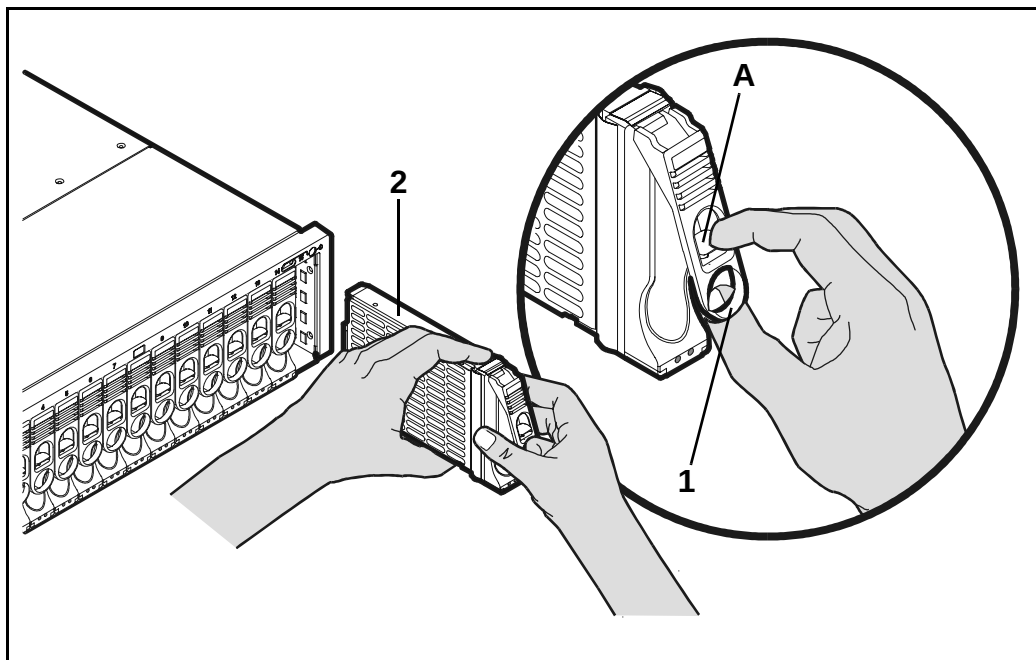
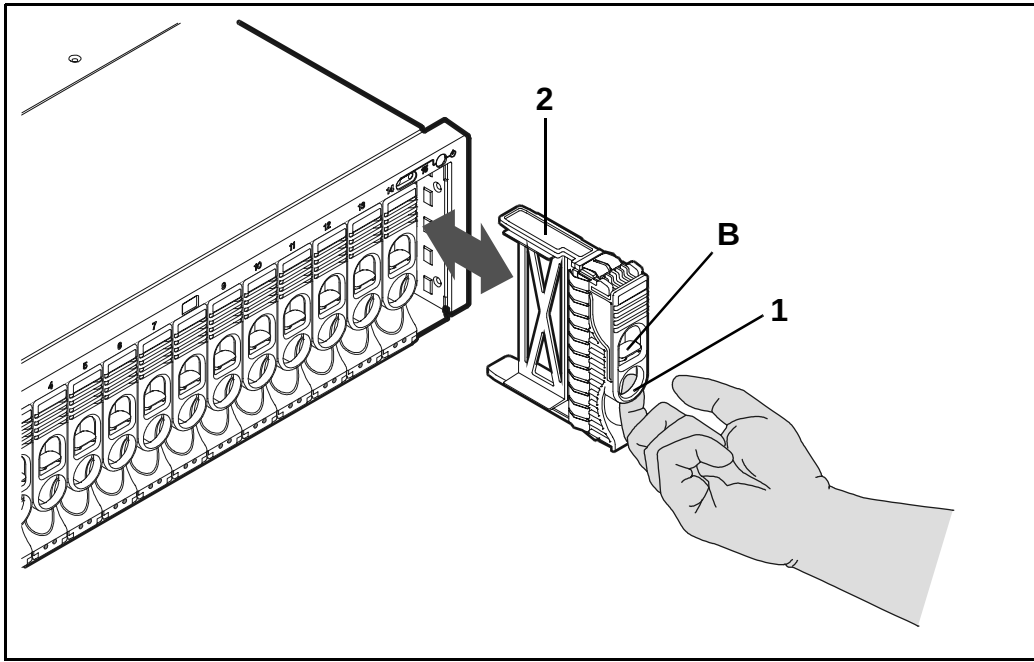

Figure 25 Removing & Replacing a Disk Drive
Figure 26 Removing & Replacing a Type B Disk Drive Filler Panel
1. Push down the release tab (Figure 25, A) and pull up the cam lever (1).
2. Push the disk drive (2) firmly into the slot.
- Your disk drive filler panel is one of two types: Type A has a blue release tab (Figure 25, A) and is captured and held in place by a cam lever, like a disk drive. Type B has a fixed gray tab (Figure 26, B) and is captured and held in place by cantilever clips.
Type B - Place your index finger under the handle (Figure 26, 1) and pull the disk drive filler panel (2) straight out of the slot.
Type B - Push the disk drive filler panel (Figure 26, 2) straight into the slot until it clicks into place.